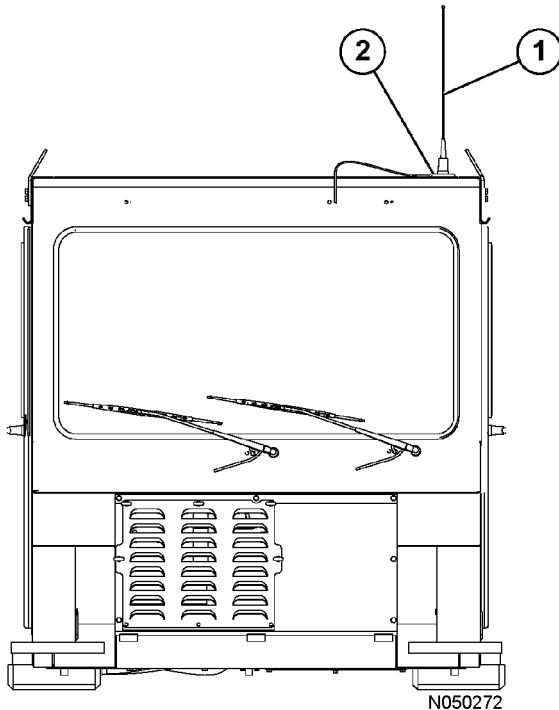

FIGURE 32-13. ORBCOMM ANTENNA
The Orbcomm controller transmits data through antenna (1, Figure 32-13) mounted on top of the cab with magnetic mount (2). The antenna coaxial cable is routed through the cab to protect it from damage. If the antenna or coaxial cable is damaged, replace the part.